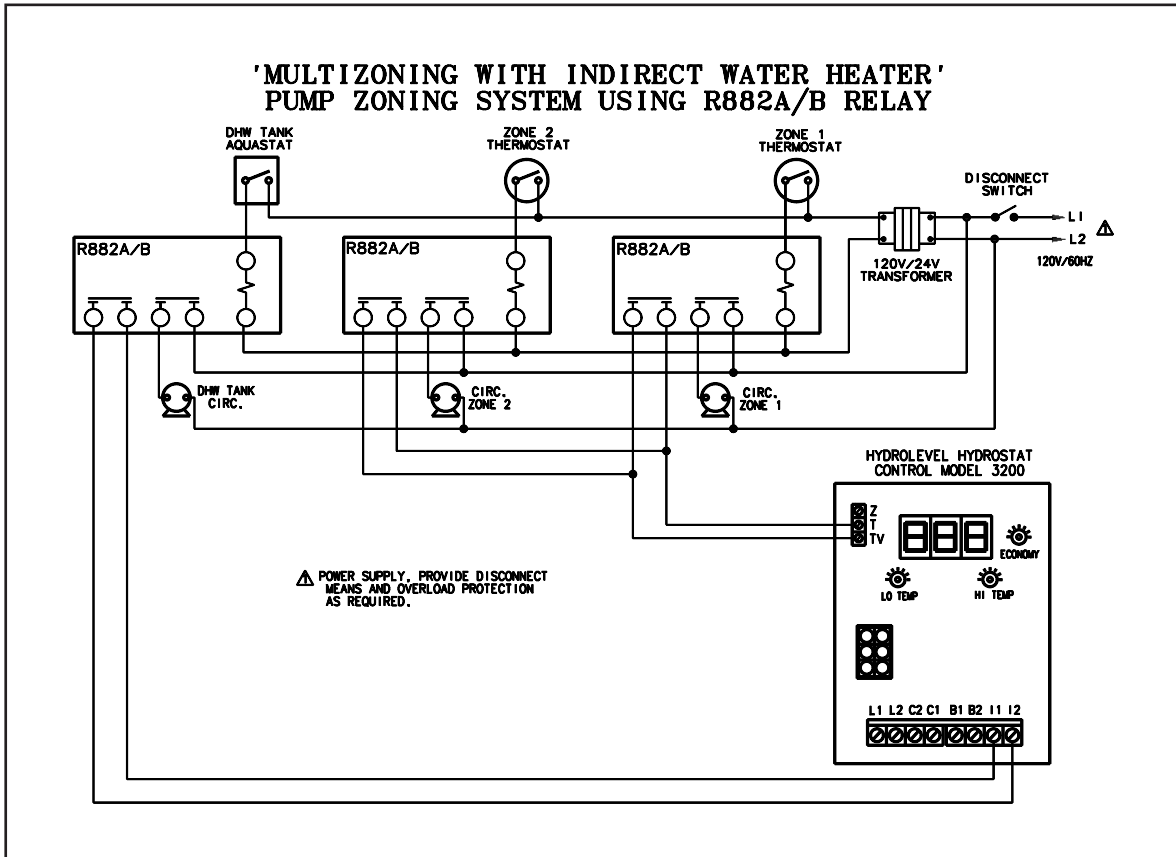

Figure 6. Multizoning of Sentry boiler-2 zone system pump zoning system using R882A/B relays.
If the system includes indirect water heater, the indirect signal must be separated from heating zone(s) system. See figure 6 and follow steps below:
- c. Power DHW and heating zone(s) circulators through end switch relays as shown on figure 6. Do not connect heating zone(s) circulators to C1 and C2 of the control.